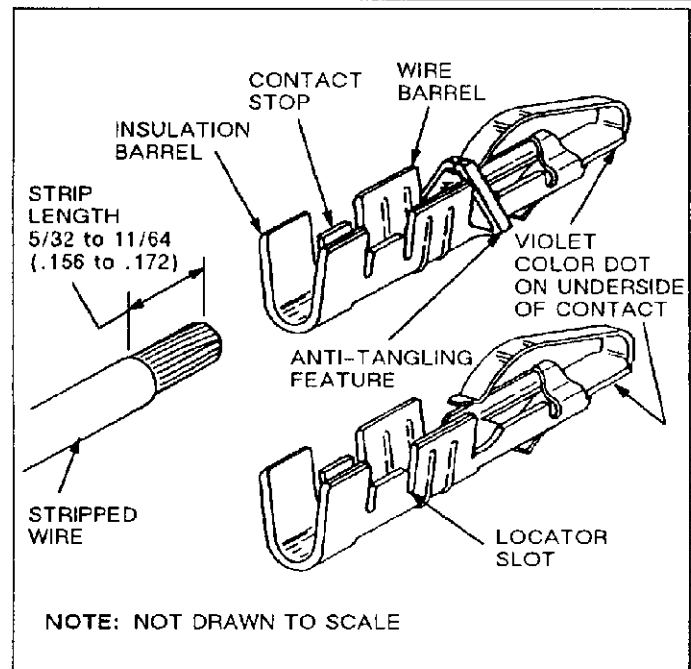

Fig. I-2
AMP Hand Crimping Tool 90031-9 is designed to crimp the AMP-LEAF* loose-piece (LP) contacts listed in Figure I-2. Contacts with the anti-tangling feature MUST be crimped in this tool. Read these instructions carefully before starting.
that the applicable loose-piece contacts have a violet color dot on the bottom side. See Figure I-2 and I-3.
Refer to the chart in Figure I-2, and then select wire of the specified size and insulation diameter. Strip the wire to the length indicated — do NOT cut or nick the wire strands.
This tool is designed to crimp only the loose-piece contacts listed in Figure I-2. Do NOT use the tool to crimp single contacts that have been cut from a strip.